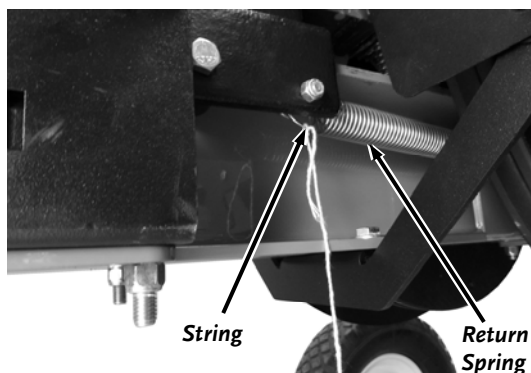

Figure 15
1. Tie a String on the end loop of the return Spring and carefully (due to spring tension) remove the Spring from the Locknuts and hold the string as you let the Spring retract back under the Belt Guard (Figure 15). Repeat for the Spring on the other side of the Frame.
- Remove the Return Springs as described in step 1 of “Greasing The Rack and Pinion” on page 12 (**Figure 15**).
1. Remove the Return Springs as described in step 1 of "Greasing The Rack and Pinion" on page 12 (**Figure 15**).